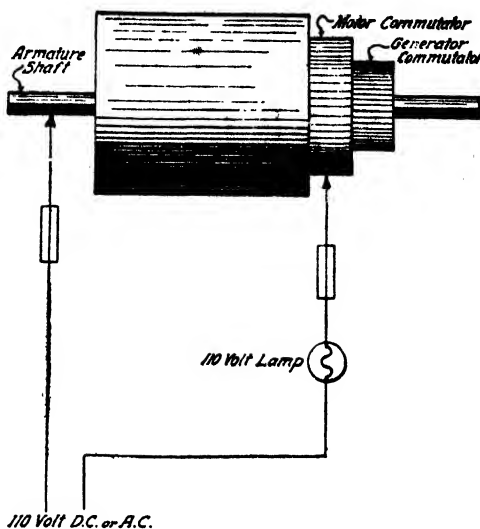
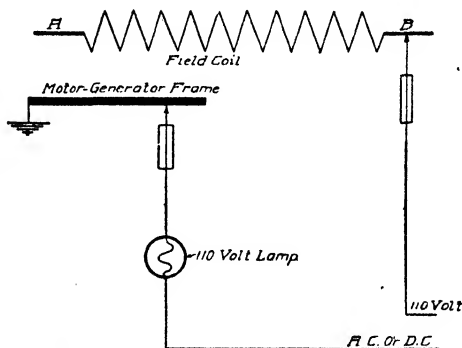

Fig. 264. Diagram for Locating Grounded Motor Coil with Lamp-Testing Set
Fig. 270. Diagram for Locating Grounded Fields
(b) *Grounded Motor Coil.* According to the nature of the fault, a grounded motor coil may either prevent operation of the starting motor altogether or it may result only in an excessive consumption of current for starting. The test is carried out in the same manner as described for the generator, except that the second point of the test set is placed on the motor commutator, Fig. 264. It will likewise be evident that an independent starting motor can be tested in the same way.
**Grounded Fields.** To test for grounds in the field windings, place one test point on the frame of the machine and the other on a terminal of the field coil. Before doing this, however, all intentional ground connections made by the terminals should be removed. These can be located by referring to the winding diagram. If the lamp lights, it will indicate a ground. The manner of applying the test points is shown in Fig. 270.
*To test for grounds in a field*, after having removed all ground connections, as mentioned in a previous paragraph, place one end, or point, on a terminal of the field coil and the other on the frame of the machine. The method of making the test is identical with that shown in Fig. 270, except for the substitution of the voltmeter for the 110-volt light circuit. If the coil is free from grounds, the voltmeter needle will remain at zero; in case, there is a ground, there will be an indication on the instrument and the worse the ground the greater the value of this reading will be. This test corresponds to that illustrated in Fig. 264.